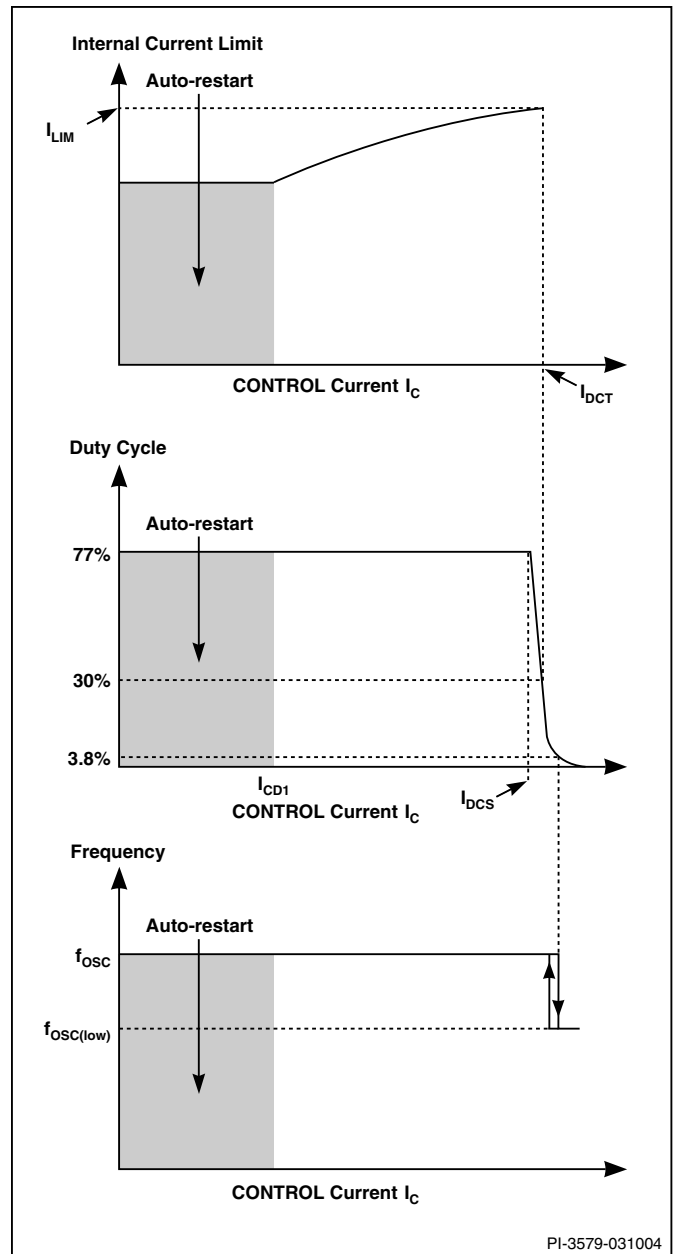
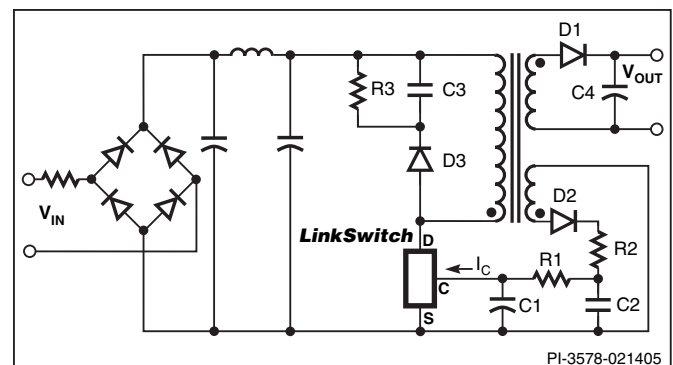
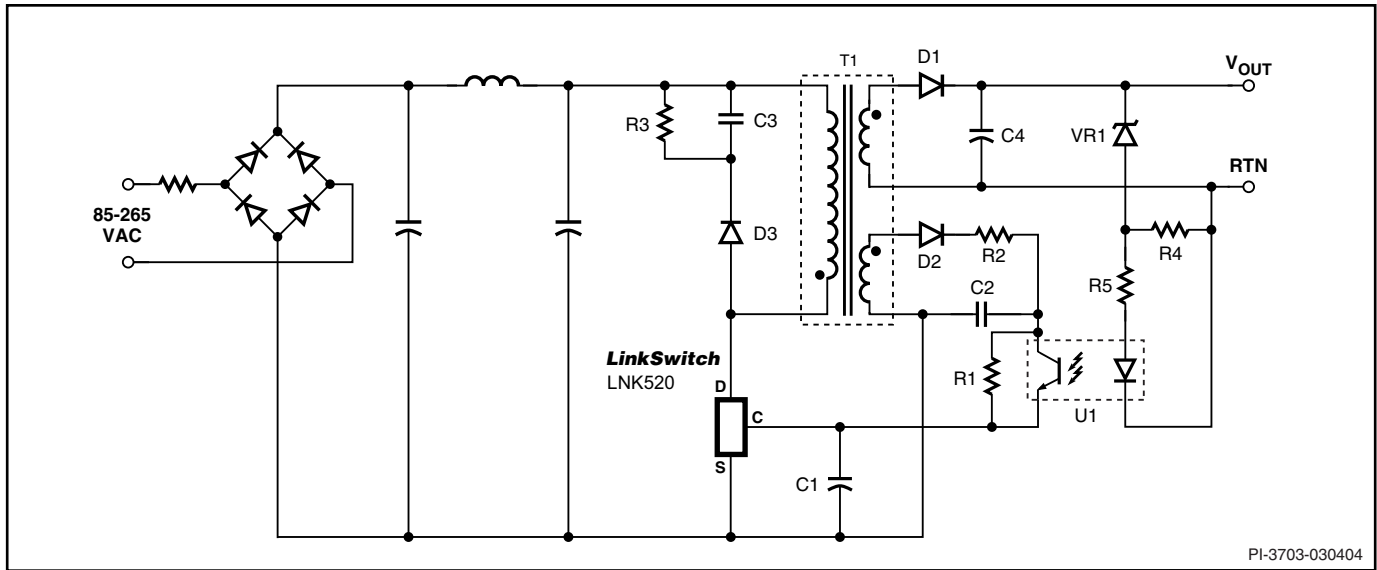

Figure 4. CONTROL Characteristics.
Figure 5. Power Supply Schematic outline.
Figure 6. Power Supply Schematic Outline with Optocoupler Feedback, Providing Tight CV Regulation.
The duty cycle, current limit and operating frequency relationships with CONTROL pin current are shown in Figure 4. Figure 5 shows a typical power supply schematic outline which is used below to describe the LinkSwitch operation.
During power up, as V_{IN} is first applied (Figure 5), the CONTROL pin capacitor C1 is charged through a switched high voltage current source connected internally between the DRAIN and CONTROL pins (see Figure 2). When the CONTROL pin voltage reaches approximately 5.6 V relative to the SOURCE pin, the high voltage current source is turned off, the internal control circuitry is activated and the high voltage internal MOSFET starts to switch. At this point, the charge stored on C1 is used to supply the internal consumption of the chip.
As the output voltage, and therefore the reflected voltage across the transformer bias winding ramp up, the feedback CONTROL current I_C flowing through R1 increases. As shown in Figure 4, the internal current limit increases with I_C and reaches I_{LIM} when I_C is equal to I_{DCT} . The internal current limit vs. I_C characteristic is designed to provide an approximately constant power supply output current as the power supply output voltage rises.
When I_C exceeds I_{DCS} , typically 2 mA (Figure 4), the maximum duty cycle is reduced. At a value of I_C that depends on power supply input voltage, the duty cycle control limits LinkSwitch peak current below the internal current limit value. At this point the power supply transitions from CC to CV operation. With minimum input voltage in a typical universal input design, this transition occurs at approximately 30% duty cycle. Resistor R1 (Figure 5) is therefore initially selected to conduct a value of I_C approximately equal to I_{DCT} when V_{OUT} is at the desired value at the minimum power supply input voltage. The final choice of R1 is made when the rest of the circuit design is complete. When the duty cycle drops below approximately 4%, the frequency is reduced, which reduces energy consumption under light load conditions.
Figure 6 shows a typical power supply schematic outline using LinkSwitch with optocoupler feedback to improve output voltage regulation. On the primary side, the schematic only differs from Figure 5 by the addition of optocoupler U1 transistor in parallel to R1.
When the power supply operates in the constant current (CC) region, for example at start up and when charging a battery, the output voltage is below the voltage feedback threshold defined by U1 and VR1 and the optocoupler is fully off. In this region, the circuit behaves exactly as previously described with reference to Figure 5 where the voltage across C2 and therefore the current flowing through R1 increases with increasing output voltage and the LinkSwitch internal current limit is adjusted to provide an approximate CC output characteristic.
When the output reaches the voltage feedback threshold set by U1 and VR1, the optocoupler turns on. Any further increase in the power supply output voltage results in the U1 transistor current increasing. The resulting increase in the LinkSwitch CONTROL current reduces the duty cycle according to Figure 4 and therefore, maintains the output voltage regulation.
At very light or no-load, typically less than 2 mA of output current, the output voltage rises due to leakage inductance peak charging of the secondary. This voltage rise can be reduced with a small preload with little change to no-load power consumption. The output voltage load variation can be improved across the whole load range by adding an optocoupler and secondary reference (Figure 6). The secondary reference is designed to only provide feedback above the normal peak power point voltage to maintain the correct constant current characteristic.